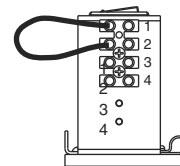

Figure 2
Closing Cycle – Make adjustments, as necessary, to the Sweep Speed "S" valve and Latch Speed "L" valve. See Fig. 2 below for location of valves. Turn valves clockwise to reduce speed, counter clockwise to increase speed.
Opening Cycle – Adjust Backcheck, "B" valve, as necessary, for hydraulic resistance to door opening in the backcheck range. See illustration in Fig. 2 for location of valve.
Step 4: Using a short jumper cable, jump terminals 1 and 2, see Fig. 2 below, to activate unit. When door reaches 20°, switch Breaker Switch to "OFF" position cutting power to the unit. Allow door to fully close (door may be manually pulled closed).
Step 7: Flip Breaker Switch to “RESET” to turn power on. Jump terminals 1 and 2 (as shown in Fig. 2) to activate door. Note open position of the door. Allow door to close.